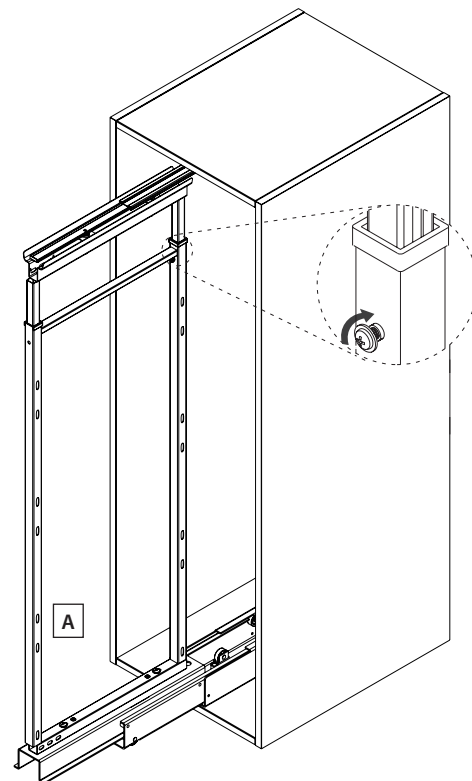

fig. 7
8) Tighten the two screws in figure 7.